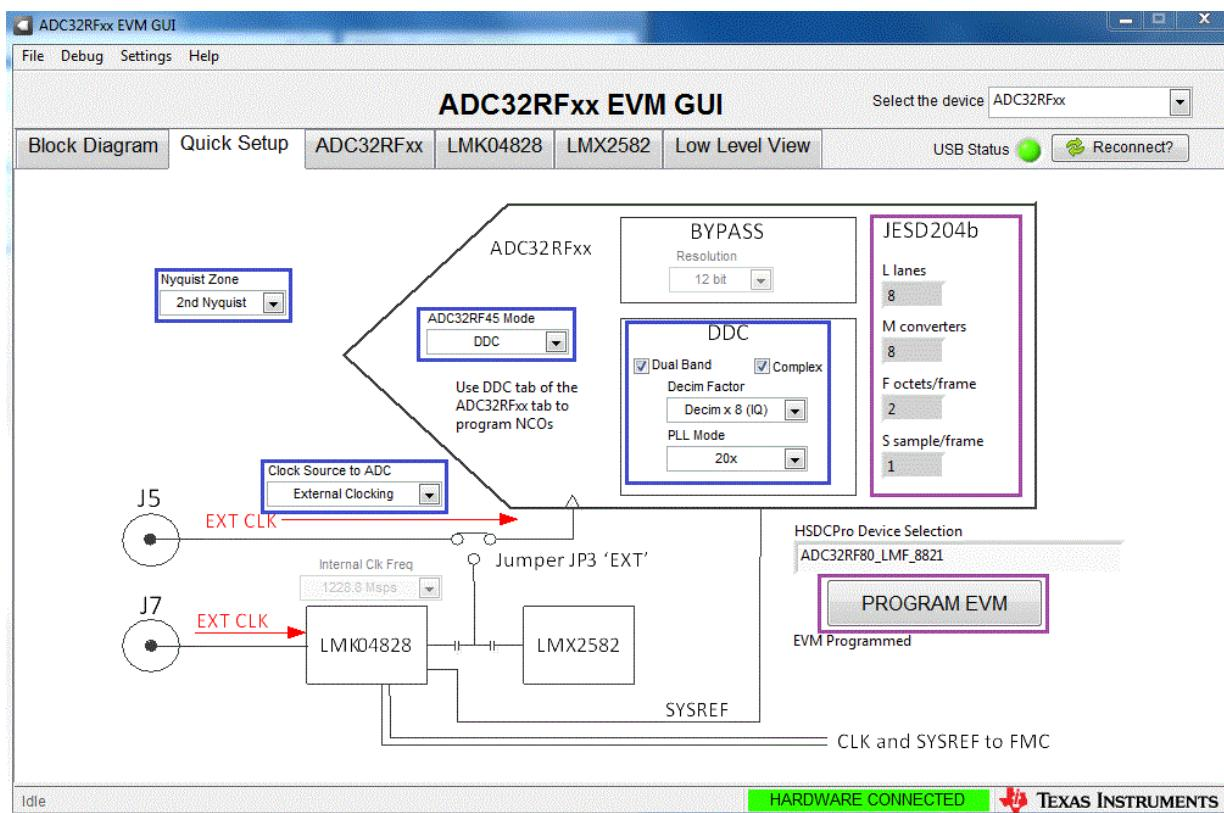
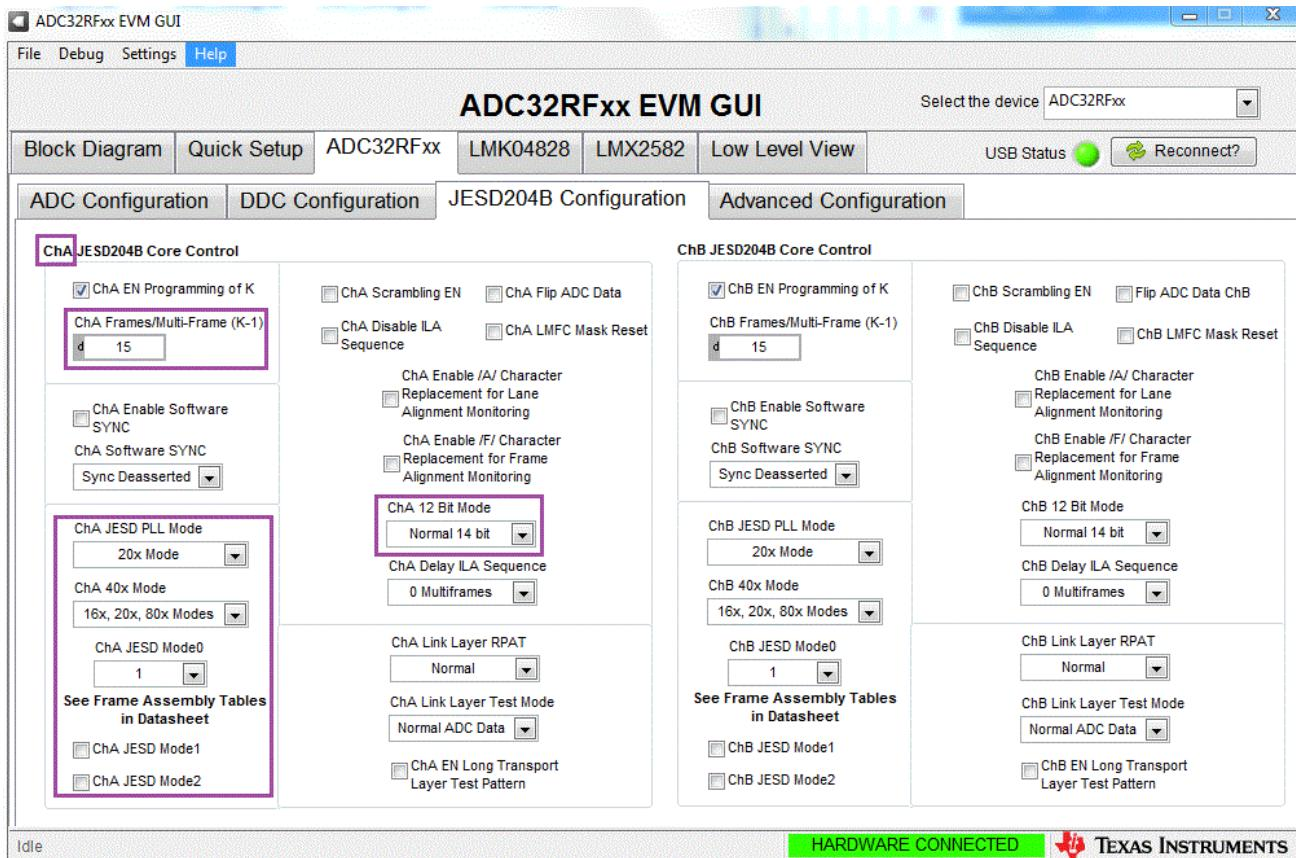

Figure 19. ADC32RFxx-EVM Quick Setup View DDC Mode
Figure 20. ADC32RFxx-EVM GUI JESD204B Configuration Tab DDC Mode
10. After pressing the **PROGRAM EVM** button, the device is configured as shown in Figure 19 and Figure 20, indicating the 12-bit packed, 5-sample mode for LMFS82820.